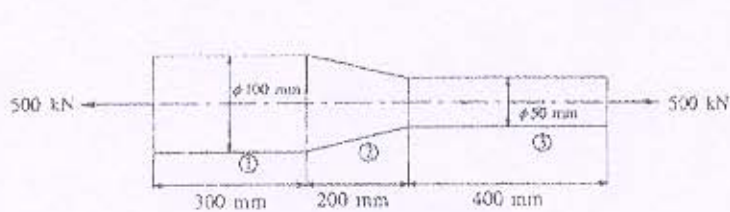

Figure 8
- Determine the elongation of cylindrical bar shown in Figure 8. Assume E for the bar material as 200 kN/m^2 .